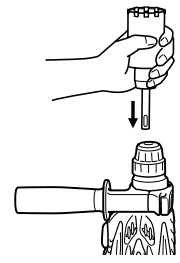
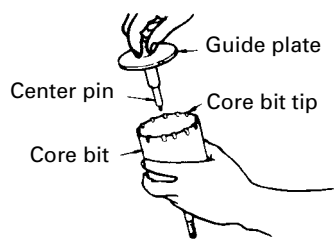

Fig. 16
Fig. 17
- (2) Mount the core bit shank to the rotary hammer (Fig. 16).
- (3) Insert the center pin into the guide plate until it stops.
- (4) Engage the guide plate with the core bit, and turn the guide plate to left or right so that it does not fall even if it faces downward (Fig. 17).